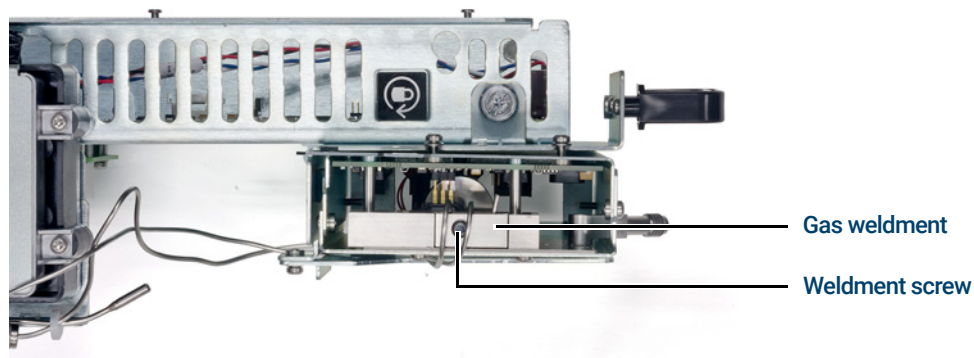

Figure 17. EPC module gas weldment
- 20** Use a T10 Torx driver to disconnect the anode purge and gas inlet lines at the EPC module by completely loosening one captive screw on the gas weldment at the EPC module. See **Figure 17**.